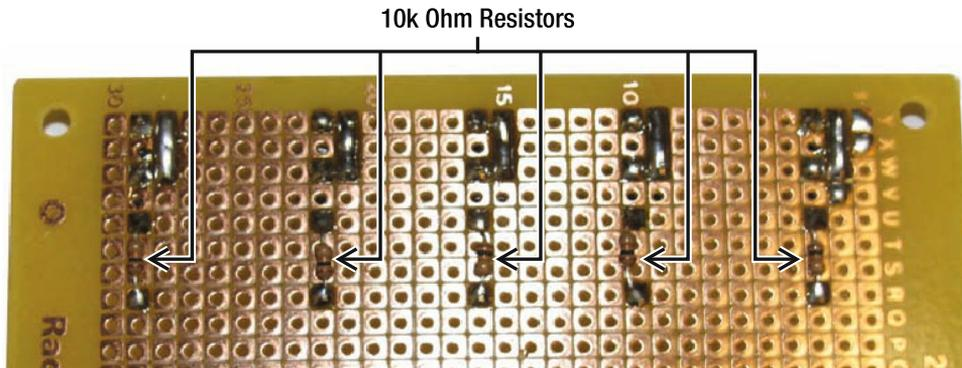

Figure 4-11. Install the (5) 10k ohm resistors from the emitter pin of each photo-transistor to a common Ground.
- Next add 10k pull-down resistors from the photo-transistor (Detector) output pin to Ground (see Figure 4-11). By placing the pull-down resistors on each sensor output pin, we are ensuring that the Analog inputs of the Arduino will be defaulted to a value of 0, unless there is IR light activating the photo-transistor. We do this because the IR photo-transistor acts as a simple switch, enabling +5v to pass through it when turned on. When the switch is in the off state, we need to use a pull-down resistor to give the Arduino analog Input a default value (GND) so it is not left “floating.”